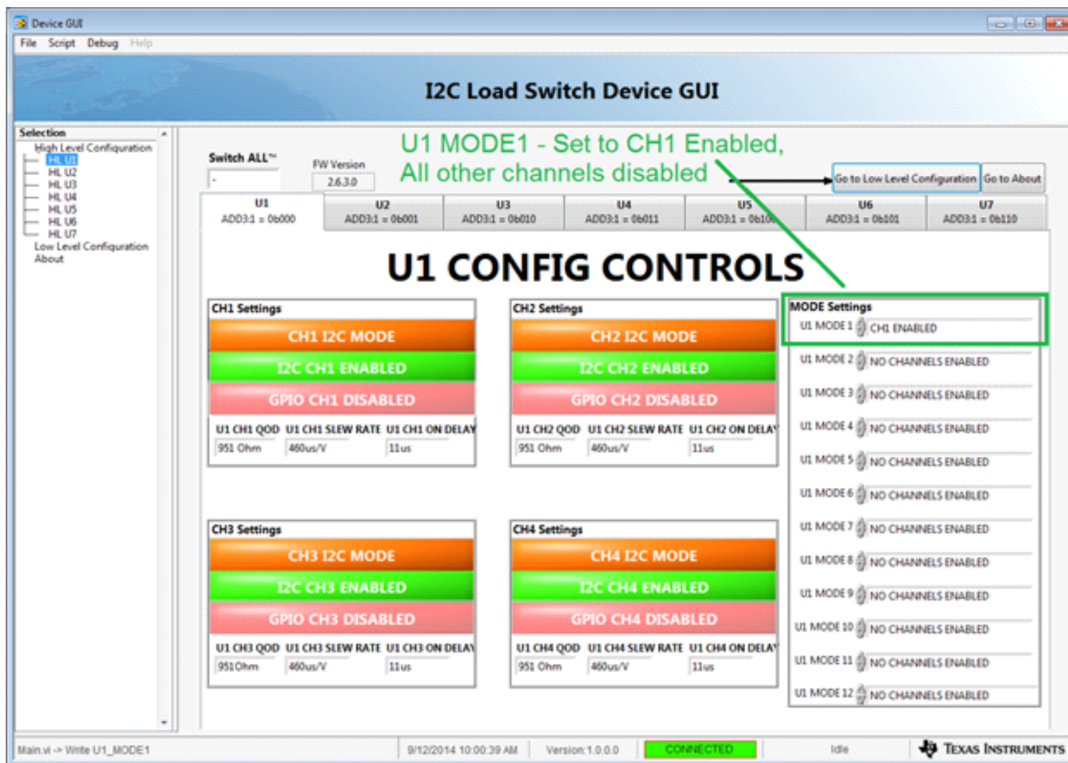
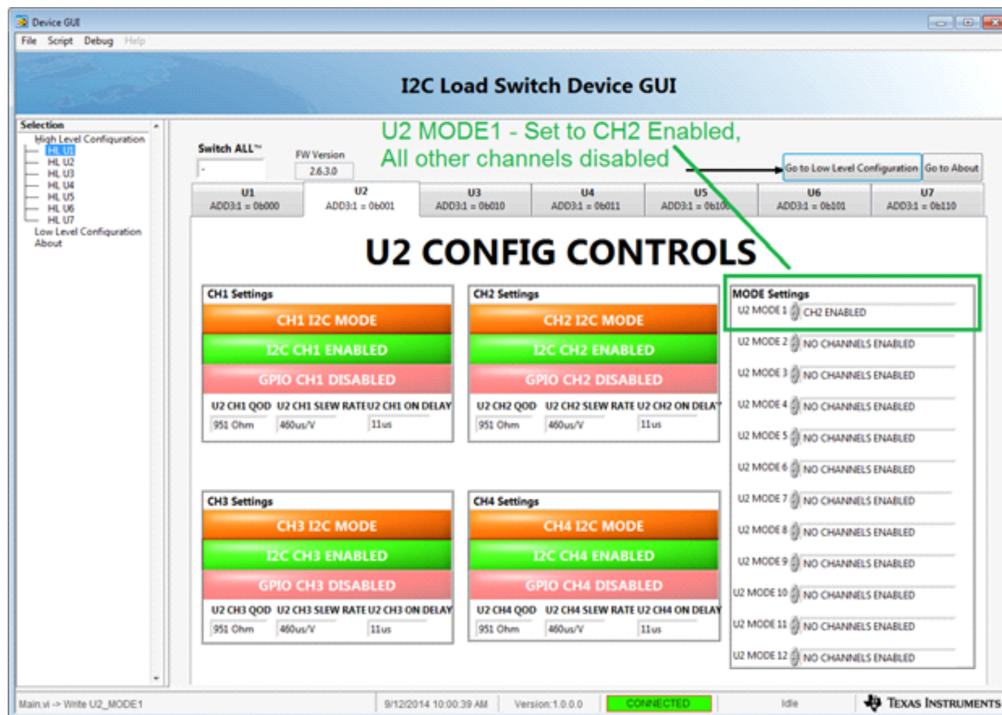

Figure 9. Set U1 Mode1 Register to CH1 Enabled
Figure 10. Set U2 Mode1 Register to CH2 Enabled
- (A) To use the SwitchAll™ function, the GUI CONFIG controls for all channels must be set to the I²C Mode, and the I²C communication must be enabled.
- (B) You can use the SwitchAll™ functionality by configuring the Mode Register controls for each specific mode register on the two devices.
- (C) For example U1 MODE1 is configured to enable CH1 only and U2 MODE1 is configured to enable CH2 only, you must set these first before sending the SwitchAll™ command, see Figure 9 and Figure 10.